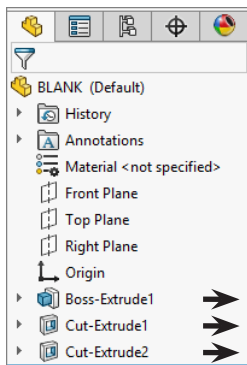
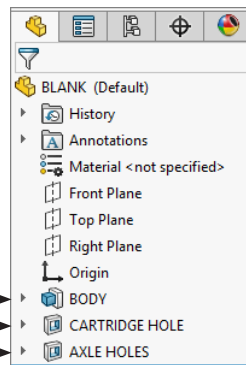

Fig. 18
Fig. 19
Step 2. **Rename Features** in the Feature Manager. To rename, slowly click twice over the Feature name (F2) and key-in new name, **Fig. 18** and **Fig. 19**.